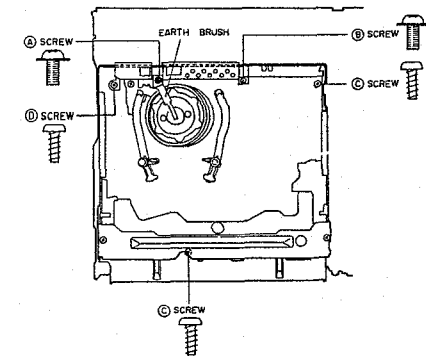

Fig. 3-24
- 1) Remove the (A) screw and remove the EARTH BRUSH as shown in Fig. 3-24.
- 2) Remove the (B) and (C) screw which fix the PRE AMP PCB then pull up the PRE AMP PCB as shown in Fig. 3-24.
- 3) Remove the two (C) screws from the MECHA. FRAME as shown in Fig. 3-24.